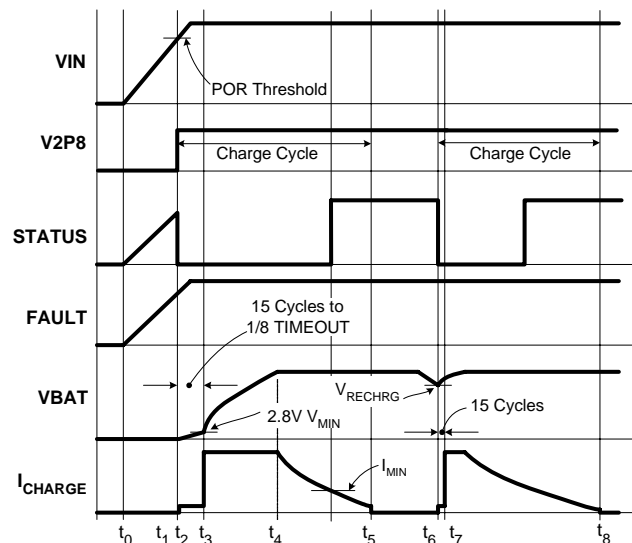

FIGURE 19. OPERATION WAVEFORMS
Figure 19 illustrates the typical signal waveforms for the linear charger from the power-up to a recharge cycle. More detailed Applications Information is given in the following.
The two indication pins, STATUS and FAULT, indicate a LOW and a HIGH logic signal respectively. Figure 19 illustrates the start-up of the charger between  $t_0$  to  $t_2$ .
A charge cycle consists of three charge modes: trickle mode, constant current (CC) mode, and constant voltage (CV) mode. The charge cycle always starts with the trickle mode until the battery voltage stays above  $V_{MIN}$  (2.8V typical) for 15 consecutive cycles of the internal oscillator. If the battery voltage drops below  $V_{MIN}$  during the 15 cycles, the 15-cycle counter is reset and the charger stays in the trickle mode. The charger moves to the CC mode after verifying the battery voltage. As the battery-pack terminal voltage rises to the final charge voltage  $V_{CH}$ , the CV mode begins. The terminal voltage is regulated at the constant  $V_{CH}$  in the CV mode and the charge current is expected to decline. After the charge current drops below  $I_{MIN}$  (programmable for the 4x4 and 5x5 package and programmed to 1/10 of  $I_{REF}$  for the 3x3 package; see "End-of-Charge (EOC) Current" on page 13 for more detail), the ISL6292 indicates the end-of-charge (EOC) with the STATUS pin. The charging actually does not terminate until the internal timer completes its length of TIMEOUT in order to bring the battery to its full capacity. Signals in a charge cycle are illustrated in Figure 19 between points  $t_2$  to  $t_5$ .
After a charge cycle completes, charging is prohibited until the battery voltage drops to a recharge threshold,  $V_{RECHRG}$  (see “Electrical Specifications” on page 3). Then a new charge cycle starts at point  $t_6$  and ends at point  $t_8$ , as shown in Figure 19. The safety timer is reset at  $t_6$ .
The trickle mode charge has a time limit of 1/8 TIMEOUT. If the battery voltage does not reach  $V_{MIN}$  within this limit, a TIMEOUT fault is issued and the charger latches up. The charger stays in trickle mode for at least 15 cycles of the internal oscillator and, at most, 1/8 of TIMEOUT, as shown in Figure 19.
The end-of-charge current  $I_{MIN}$  sets the level at which the charger starts to indicate the end of the charge with the STATUS pin, as shown in Figure 19. The charger actually does not terminate charging until the end of the TIMEOUT, as described in "Total Charge Time" on page 12. The  $I_{MIN}$  is set in two ways, by connecting a resistor between the IMIN pin and ground, or by connecting the IMIN pin to the V2P8 pin. When programming with the resistor, the  $I_{MIN}$  is set in Equation 6.